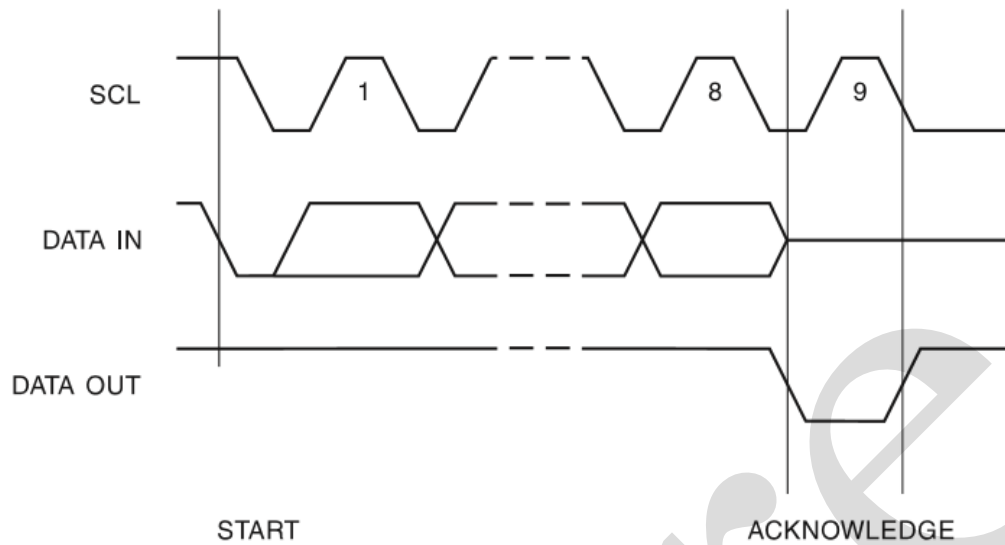

Figure 7
4.1.9、Output Response(see to Figure 7)